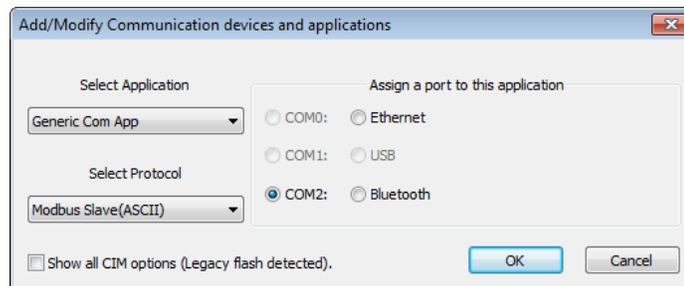

Figure 38: COMM 2 port definition
3. On the **Select Application** menu, select the type of communication being added. For RS-232/422/485, select **Generic Com App** (Figure 38).